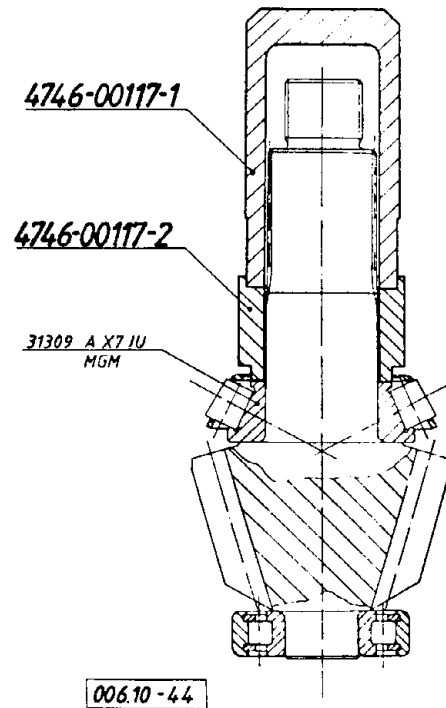

Fig. 10.: PRESSING ON THE CONE OF THE INNER TAPER ROLLER BEARING
By means of the tools shown press on the cone of the inner taper roller bearing (12) to bottom out (Fig. 10.).